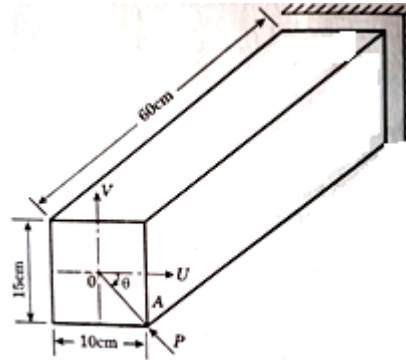

Fig.1
- 5 a) Obtain the stress distribution in a rotating solid disc of radius 'b' with no external forces at the outer surface. (7)
- b) Sketch the circumferential stress distribution for a thick cylinder subjected to internal pressure only. (3)
- 6 a) Draw the stress distribution around a small hole (diameter 'b'), on a thin plate having large width ('a') where $b \ll a$, subjected to uniform tensile forces at the two edges. (4)
- b) What are the assumptions involved in axisymmetric problems. Write the governing equilibrium equations for the axisymmetric problem with sketch indicating stress components. (6)
- 7 a) Find the value of load P in Fig.1, so that the maximum bending stress allowed is 15MPa for the case of beam shown below, subjected to unsymmetrical bending. (8)